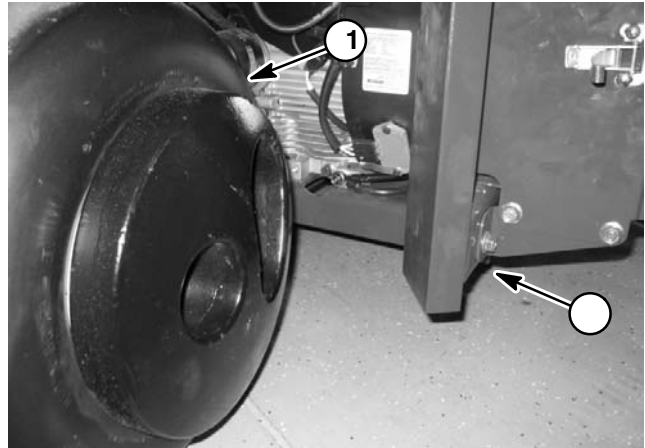

Figure 1
2. Position jack securely under the front of the frame (Fig. 1).